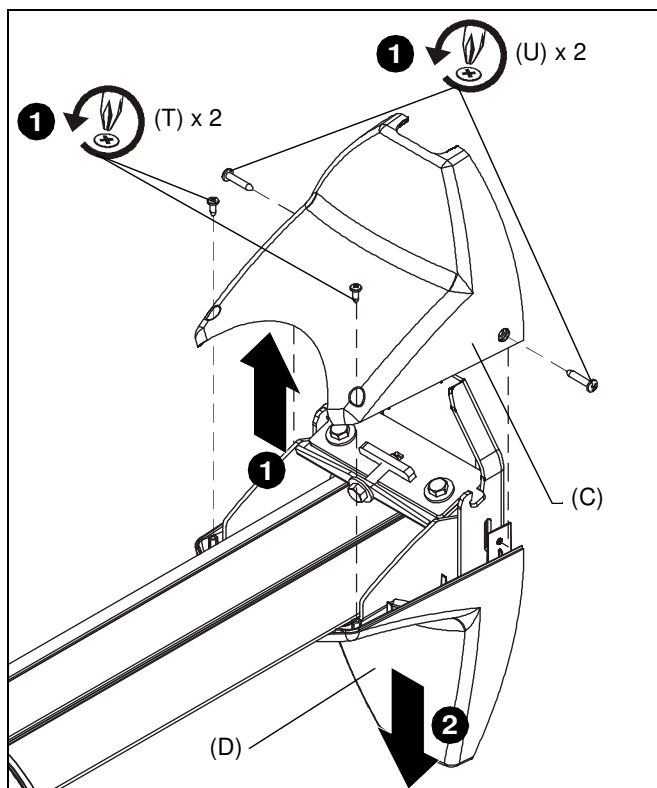

Figure 19
1. Remove two #8 x 1/2" Phillips pan tapping screws (T) and two #10 x 1" Phillips pan tapping screws (U) to free top cover (C) and expose pitch adjustment screw. (See Figure 19)
2. Remove lower cover (D) from WMA1S. (See Figure 19)